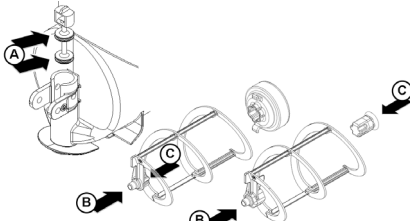

figure 9
- 2 Lubricate faucet piston, outer spiral and outside magnetic rotor (see points A, B and C of figure 9) only with the grease supplied by the manufacturer or other **food grade approved** lubricant.